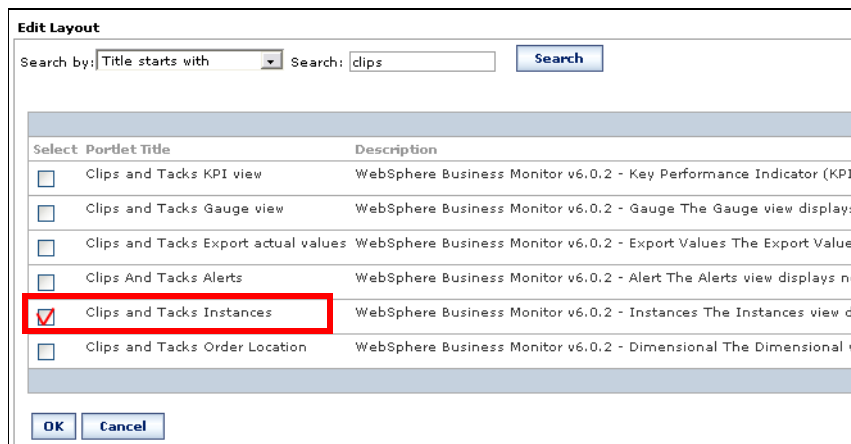

Figure 14-65 Selecting portlet to be added to a page
- ▶ First we will add the instances view. Select the *Clips and Tacks Instances* portlet and click *OK* (Figure 14-65).